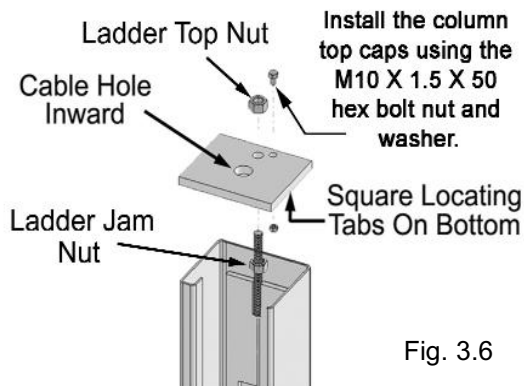

Fig. 3.6
**NOTE: Raise the ladder at least 1/2" off of the base of the column or damage to the lift will occur.** Be sure to position the cable hole INWARD. (See Fig. 3.6 & 3.7 )